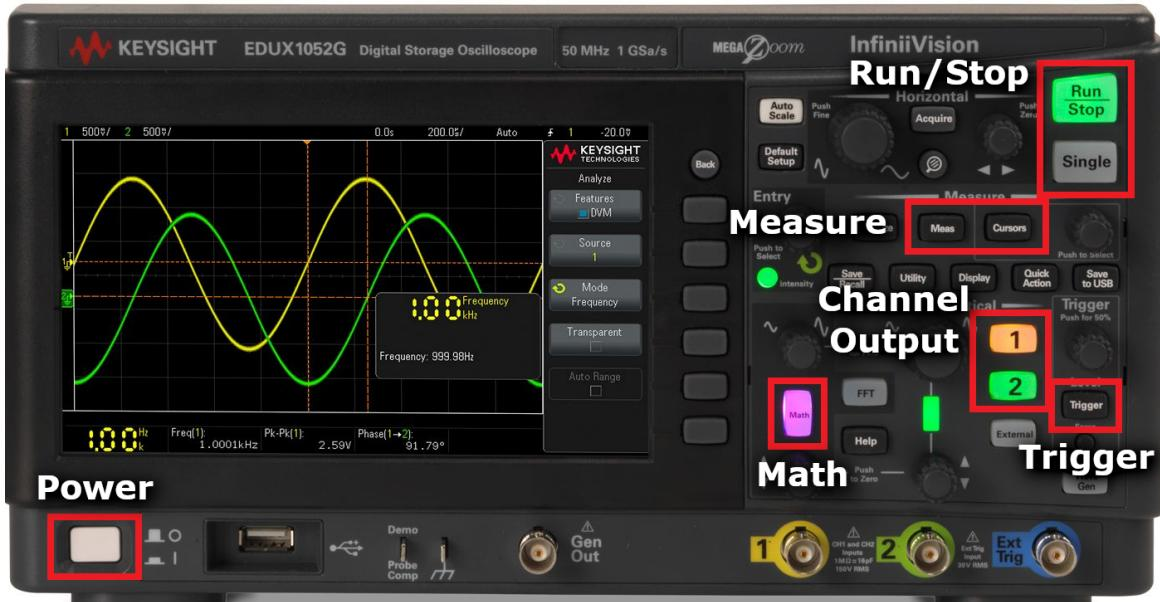
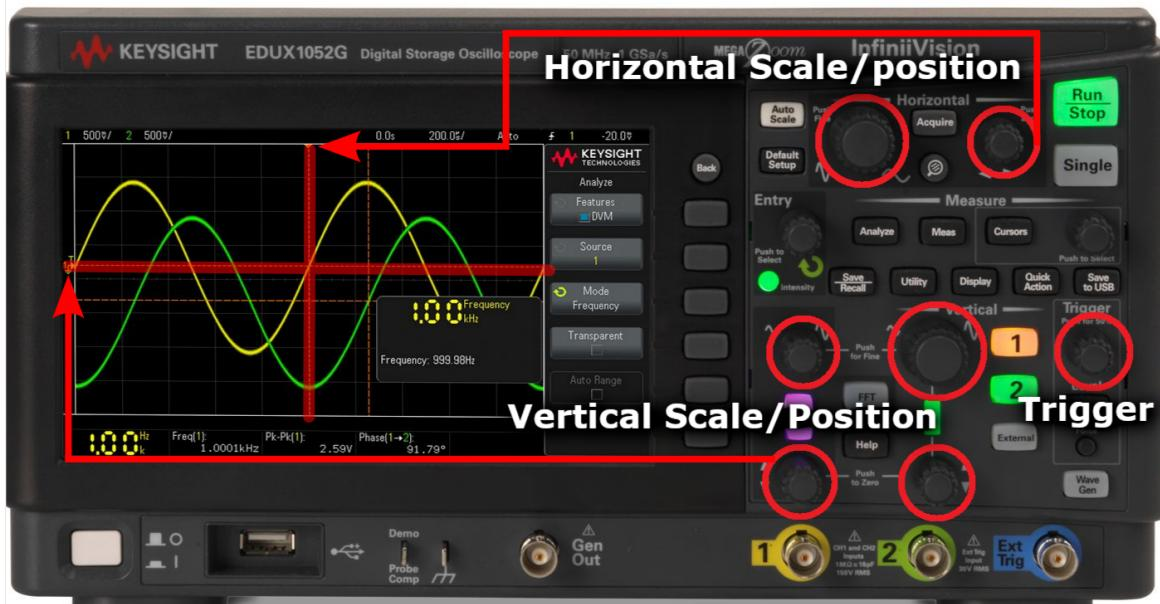

Figure 9: Oscilloscope Main Buttons
Figure 10: Oscilloscope Main Knobs
5. Press the [**Trigger**] button (see Figure 9). Configure the **Trigger Mode** to Normal, the **Trigger Type** to Edge, the Channel Source to 1, and the **Slope** to Rising (\nearrow). Finally, set the **Trigger Level** to 0 V by pressing the **Trigger** knob (see Figure 10).